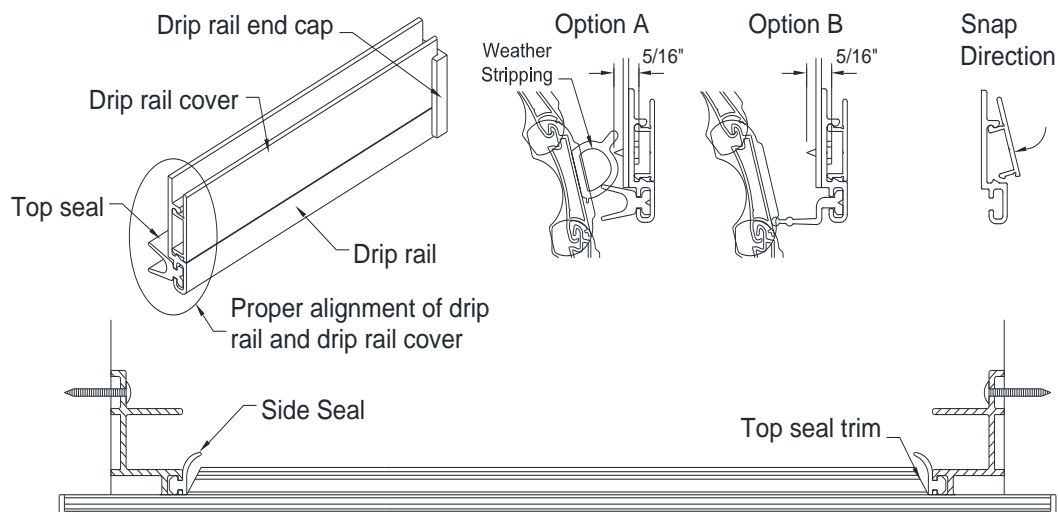

Fig. 12
- d) Clean the appropriate slat with a 50/50 isopropyl alcohol and water mixture. Let Dry. Attach bulb seal (weather-stripping) to door with the 'fin' of the extrusion on top so that when door is closed it will create a seal between header and slat assembly (see figure 12 option A).